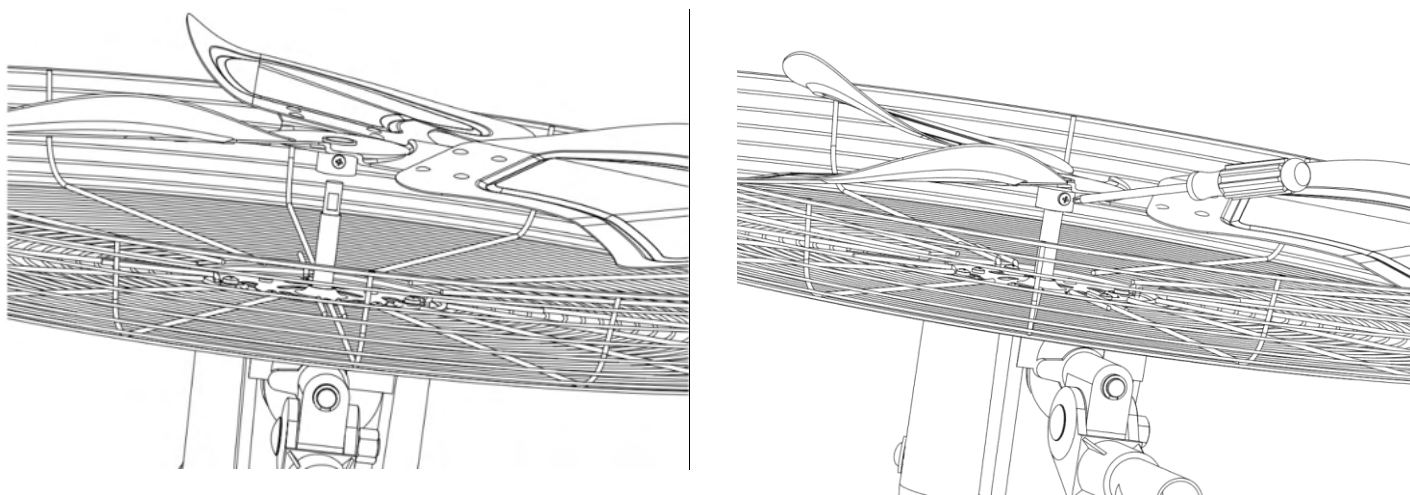

Fig. 4
4. Install the assembled fan-blades onto the motor shaft of the fan assembly, Tighten the screw on the side of the motor shaft. (Fig.4)